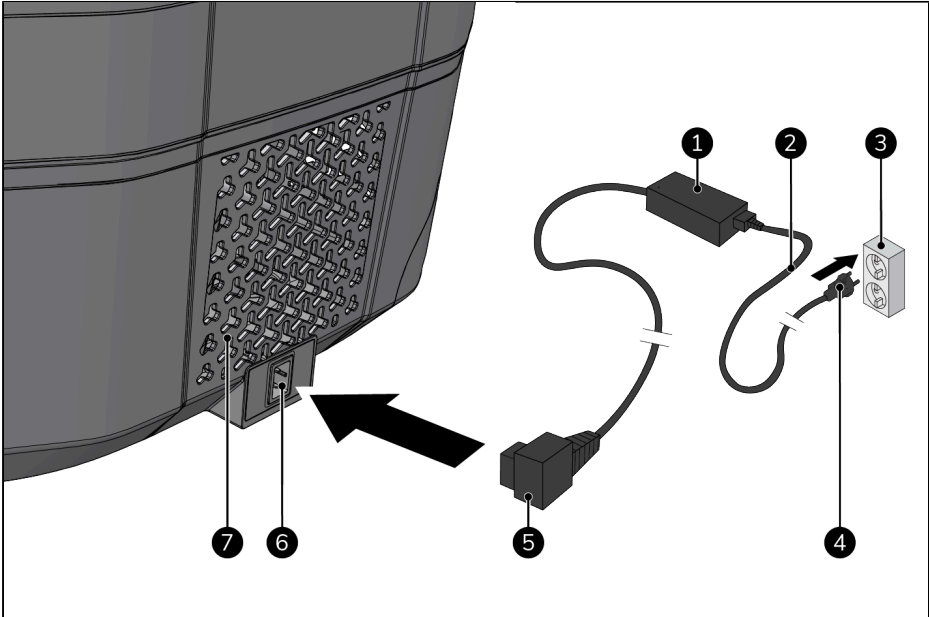

Figure 12.
2. Make sure that all three ventilation grills (Figure 12, pos. 7) have at least 5 cm of ventilation space.
3. Place the AC cable (Figure 12, pos. 2) into of the AC/DC adapter (Figure 12, pos. 1).
4. Place the AC/DC adapter plug (Figure 12, pos. 5) into the power supply of the device (Figure 12, pos. 6).
5. Place the power plug (Figure 12, pos. 4) into an easily accessible wall socket (Figure 12, pos. 3).